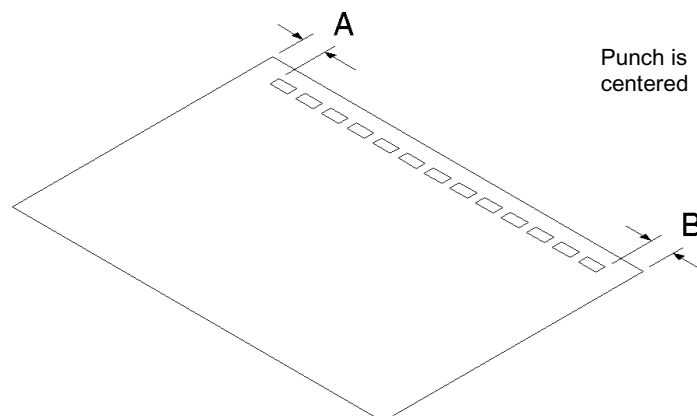

Figure 2-5: Checking the Centering of the Punched Holes
- 8 Check the centering of the punched holes, as shown in Figure 2-5.